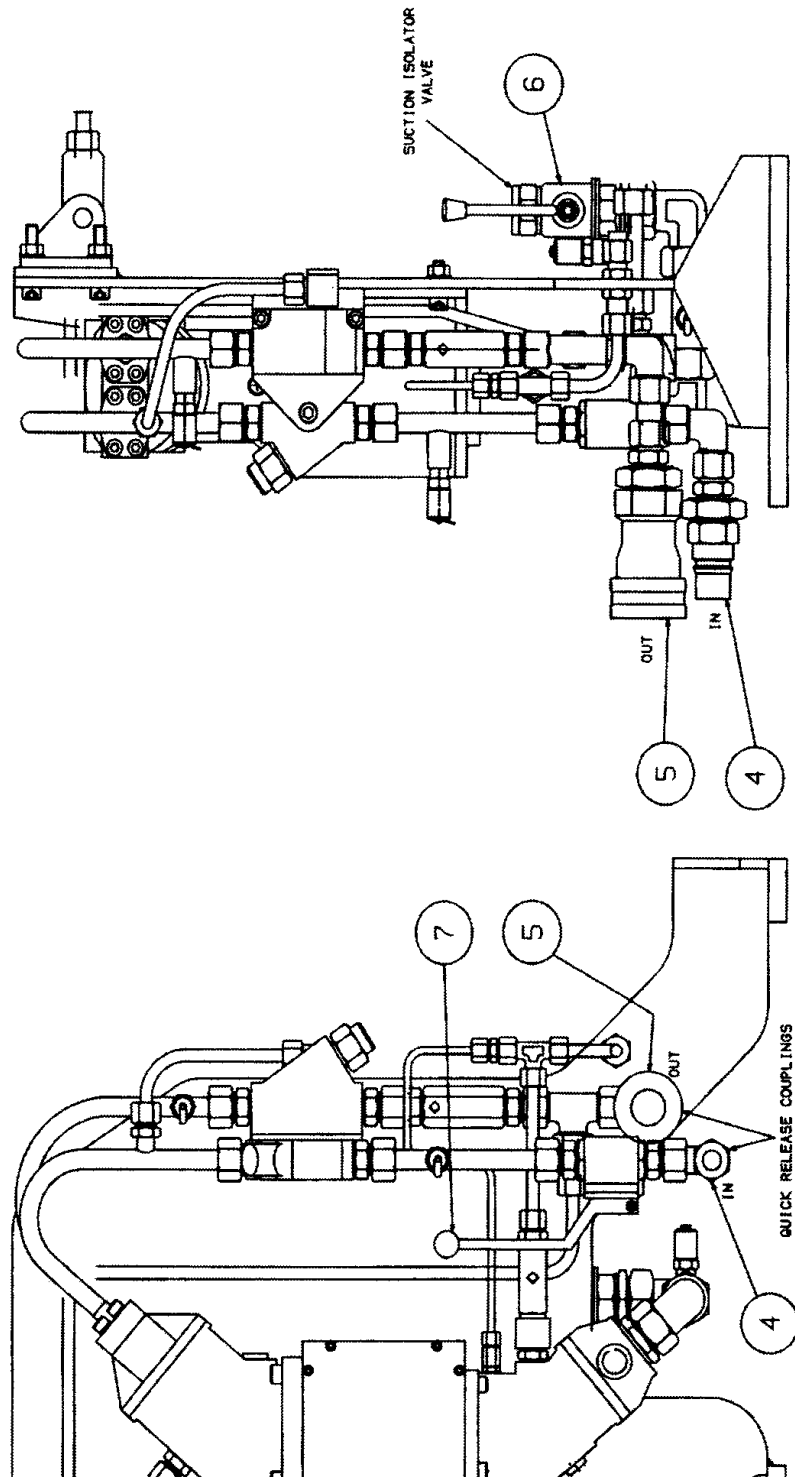

Figure 7. 11 Launch Vehicle Cross Connection Equipment
- 7.22.3.1 The quick disconnects are located on the front of the cross connection pump (Figure 7. 11).
- 7.22.3.3 Using the first slave hose (supply), connect the female end of the slave hose to the male end of the quick disconnect coupling (Figure 7. 11 (4)) on cross connection pump.
- 7.22.3.4 Using the second slave hose (return) connect the male end of the slave hose to the female end of the quick disconnect coupling (Figure 7. 11 (5)) on cross connection pump.
- 7.22.3.5 Open the suction isolation valve (Figure 7. 11 (6)) at the rear of the assembly.